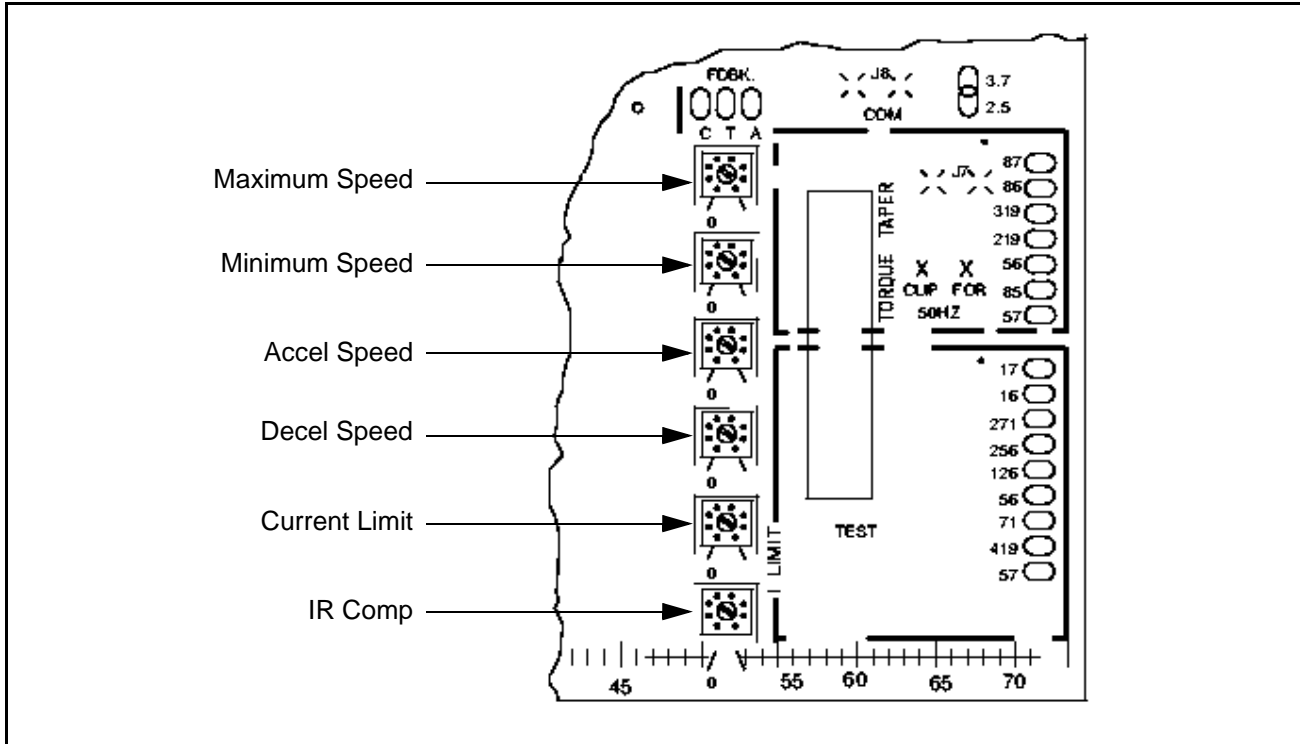

Figure 3 – Regulator Module Potentiometers
- Step 5. On the Regulator module, adjust the Current Limit potentiometer counter-clockwise (CCW) to 100%, or lower, depending on the application. It is shipped from the factory set at 150%. Dot No. 4 is approximately 100%. Refer to figure 3.